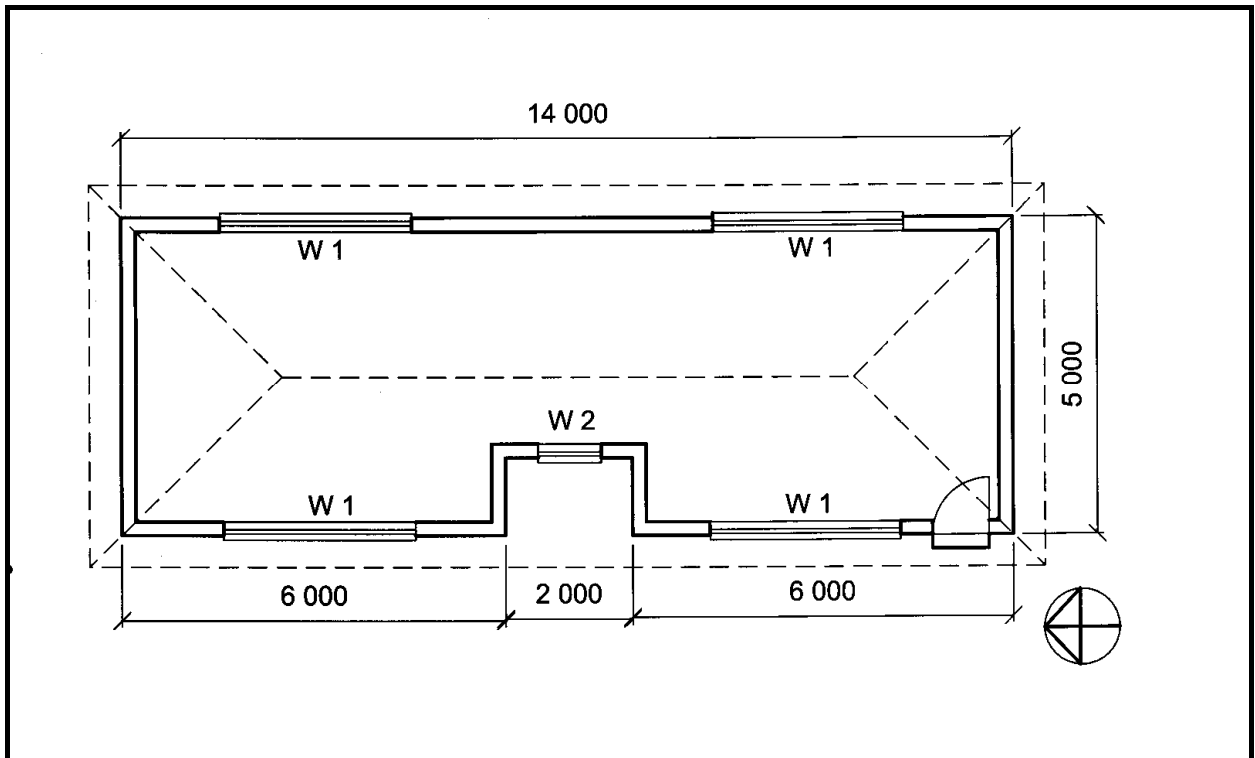

FIGURE 6.2
6.2 FIGURE 6.2 shows the floor plan of a proposed building.